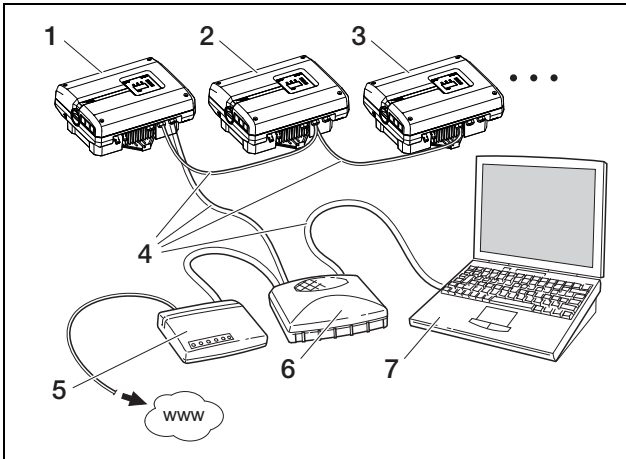

Fig. 50: Network settings with automatic network configuration for an external DSL router (☒ Auto IP/DHCP, ☒ external router)
- The "Auto-IP/DHCP" option is suitable for most applications (figure 50).